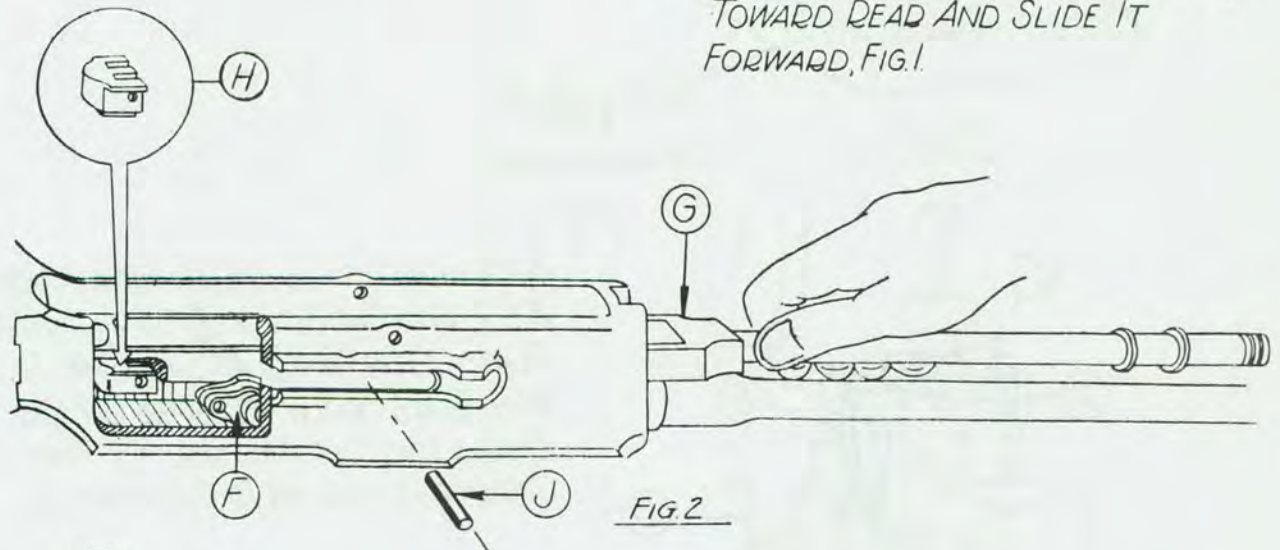

FIG. 2
⑥ PLACE PIN (A) IN THE BOLT AND BOLT LOCK ASSEMBLY (B) AS INDICATED. INSERT THE ASSEMBLY (B) IN FIXTURE (C).
⑦ IT IS IMPORTANT TO SECURE THE ASSEMBLY (B) FIG. 2, WITH THE SCREW (D) FIRST. THEN PLACE PLATE (E) ON PIN (A) AS SHOWN AND SECURE WITH THUMB SCREW (F). GRIND OFF ONLY ENOUGH FOR BOLT ASSEMBLY (B) TO BE CORRECT, ACCORDING TO OPERATION 5.
- 10 PRESS DOWN BOLT LINK (F), FIG. 2, AND INSERT OPERATING SLIDE (G). SLIDE HAMMER (H) INTO UNDER SIDE OF OPERATING SLIDE (G). PULL SLIDE (G) FORWARD AND LIFT UP LINK (F) UNTIL PIN (J) CAN BE INSERTED THROUGH SLIDE (G), HAMMER (H) AND LINK (A).